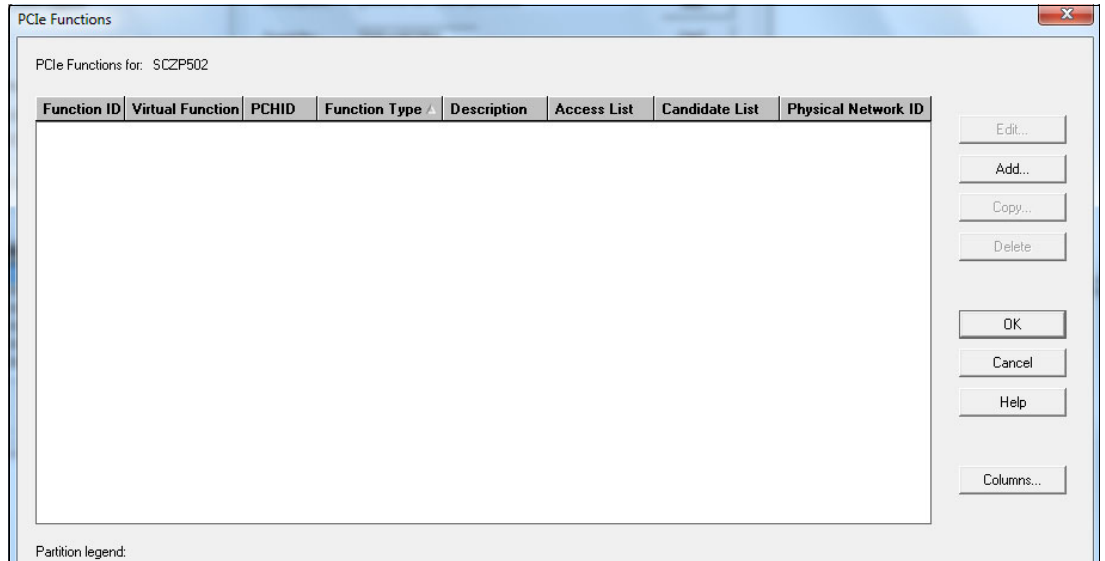

Figure 5-51 HCM - PCIe functions: summary list
4. HCM displays the PCIe Functions summary window (Figure 5-51). Click **Add**.